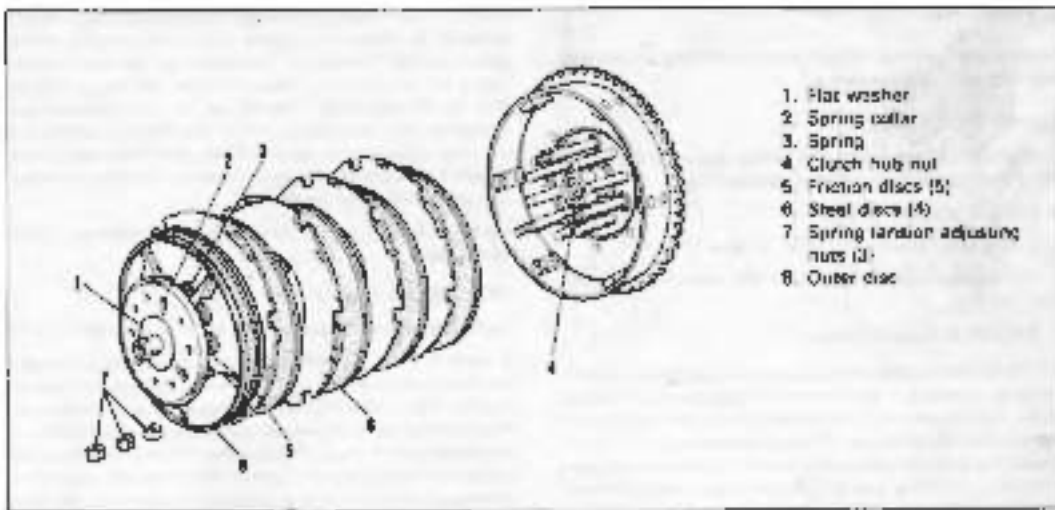

Figure 4-3. Removing Clutch
A new clutch is assembled so the distance from inner edge of spring collar (2) (Figure 4-3) to the surface of the outer disc (8) is exactly 1-1/32 in. If springs are compressed to this distance is 7/8 in. or less, the clutch probably cannot be fully disengaged. Check the dimension at several points to make sure that releasing disc is parallel with plates.
Remove push rod adjusting screw locknut (1). Place a flat washer about 1/8 in. thick with 1-3/4 in. outside diameter and 3/8 in. hole over the adjusting screw (2). Replace locknut and turn down until three spring tension adjusting nuts (3) are free. The nuts may then be removed and the spring collar, springs, outer disc assembly (4, 5 and 6) may be slipped off clutch hub dowels and studs as shown in Figure 4-3. Do not disassemble these parts unless necessary for spring, spring collar or outer disc replacement.